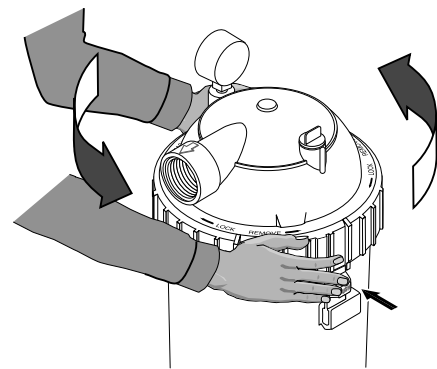

Figure 3 – Depress safety latch to unscrew the Posi-Ring™.
- a. Press the safety latch (below the ring) toward the tank to release it (see Figure 3).